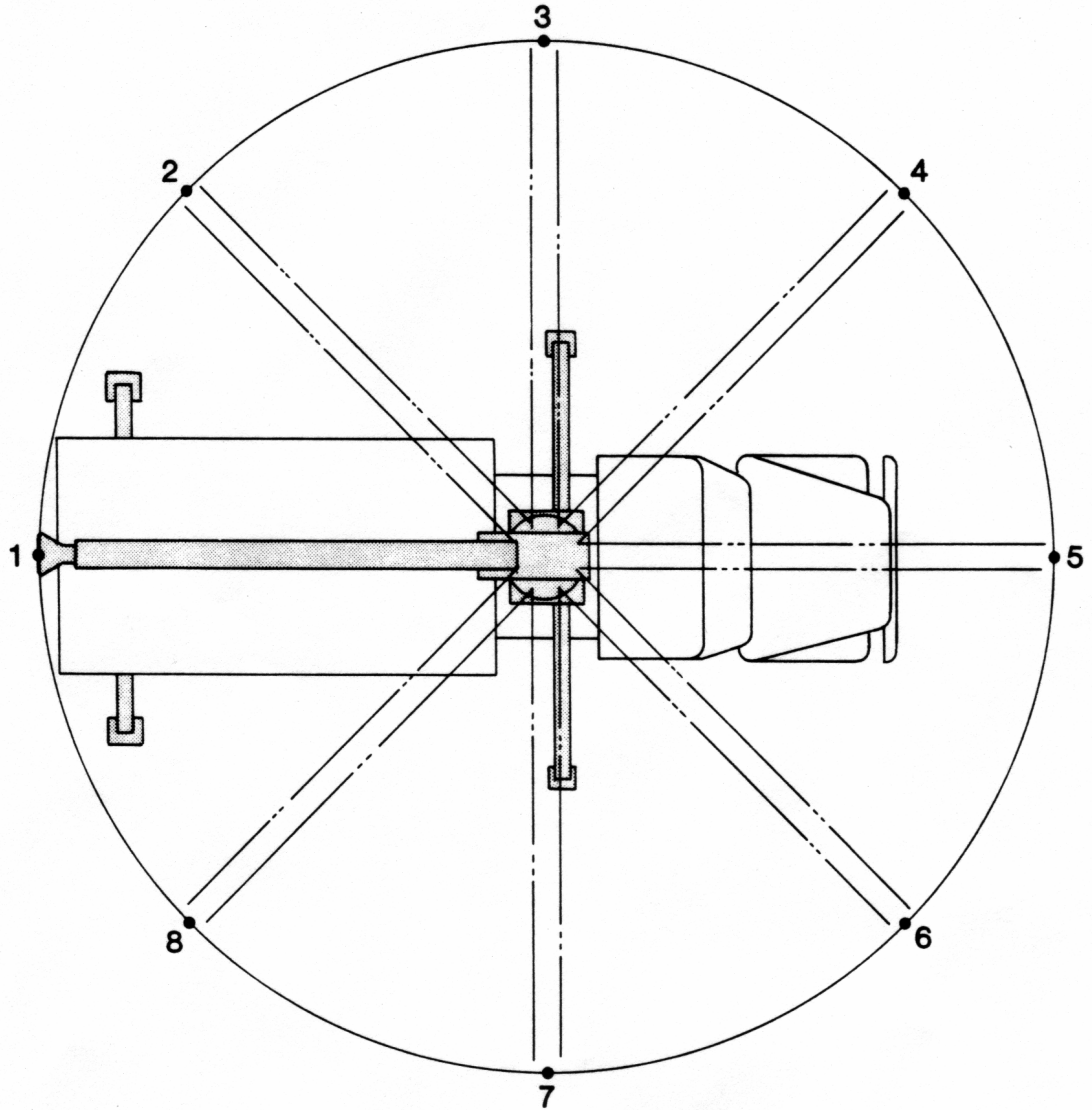

FIGURE 2
10. If the average deflection is less than 0.090", then repeat measurement procedure every 45° around entire working area of crane. Referring to Figure 2, measure deflection at positions 2, 3, 7 and 8 for 180° rotation and positions 2 – 8 for 360° rotation. Locate dial indicator on frame directly opposite to the direction the boom is pointing. Also use another crane or overhead hoist to support end of boom while powering down and resetting dial indicator. An average deflection greater than 0.090" in any position is an indication that the bearing has reached its useful life and should be replaced.